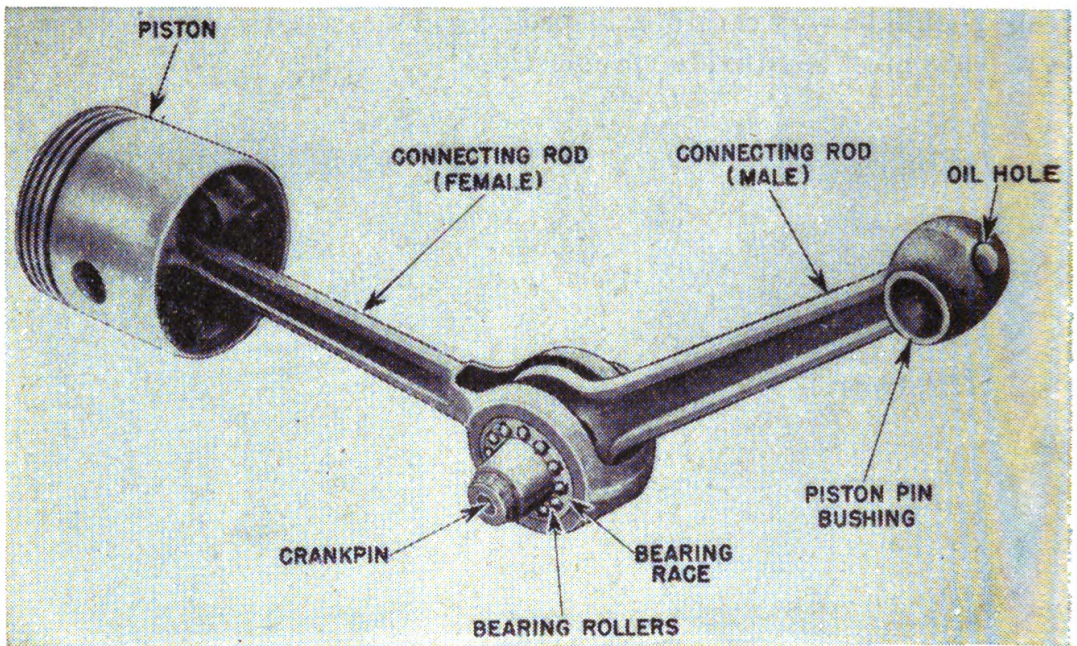

FIGURE 59.—Two-cylinder V-type motorcycle engine connecting rods.
**55. Connecting rods.**—*a.* The connecting rods of two-cylinder, V-type motorcycle engines are of the fork (male and female) type, assembled to one crankpin on a roller bearing (fig. 59). The female rod is fitted to the front or rear piston depending on the make of motorcycle. These positions are not interchangeable in a particular make.